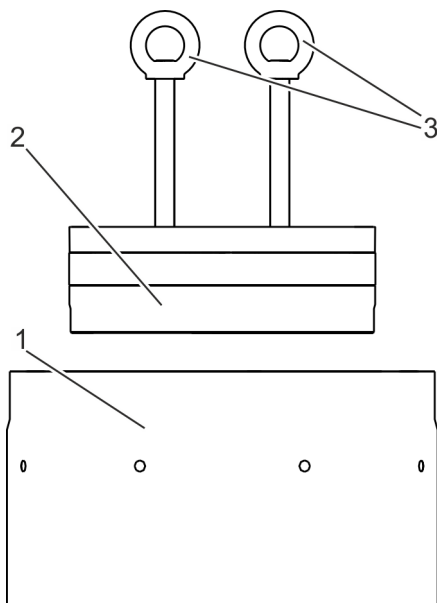

Fig. 12: Inserting the cover
- 19.** Screw the supplied ring nuts (Fig. 12/3) onto the stud bolts of the cover.
- 20.** Attach the ring nuts (Fig. 12/3) to the hoist and lift the cover (Fig. 12/2) with mounted support and gasket ring over the body (Fig. 12/1).